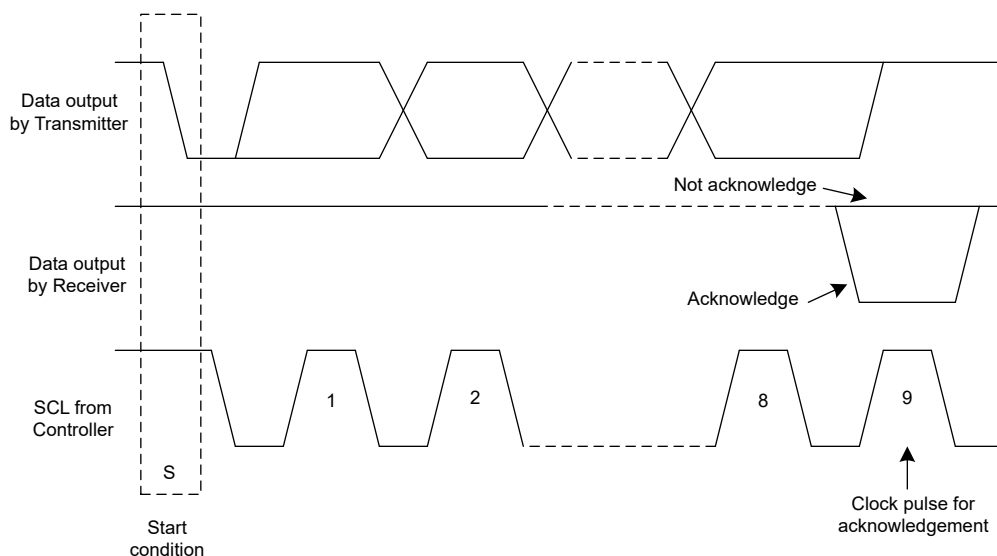
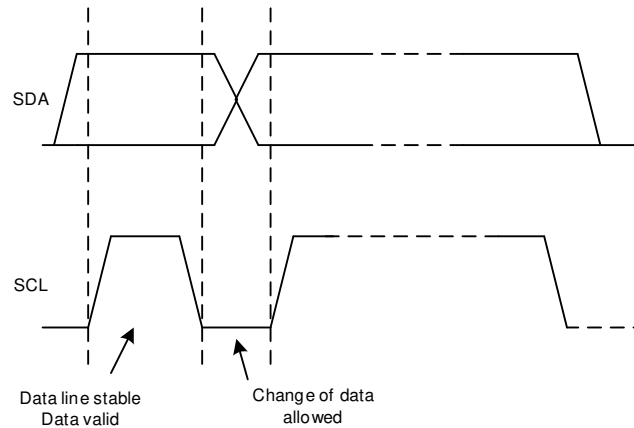

图 8-4. Acknowledge and Not Acknowledge on the I²C Bus
图 8-6. Bit Transfer on the I²C Bus
Other than specific timing signals, the I²C interface works with serial bytes. At the end of each byte, a ninth clock cycle generates and detects an acknowledge signal. Acknowledge is when the SDA line is pulled low during the high period of the ninth clock cycle. A not-acknowledge is when the SDA line is left high during the high period of the ninth clock cycle as shown in 图 8-4.
2. The controller then generates the SCL pulses, and transmits the 7-bit address and the read/write direction bit (R/W) on the SDA line. During all transmissions, the controller makes sure that data are valid. 图 8-6 shows that a valid data condition requires the SDA line to be stable during the entire high period of the clock pulse. All devices recognize the address sent by the controller and compare the address to the internal fixed addresses. Only the target device with a matching address generates an acknowledge by pulling the SDA line low during the entire high period of the ninth SCL cycle; see also 图 8-4 by pulling the SDA line low during the entire high period of the ninth SCL cycle. Upon detecting this acknowledge, the controller knows the communication link with a target has been established.